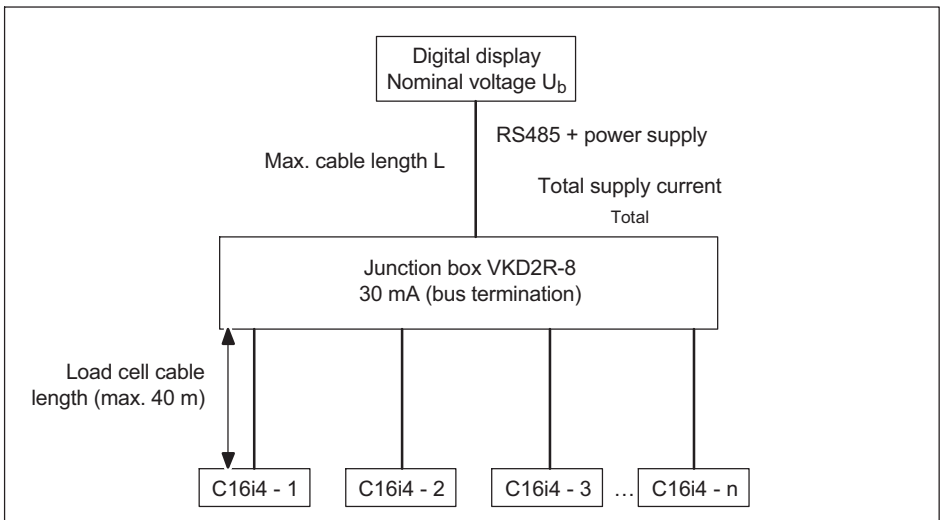

Fig. 5.2 Connection diagram when C16i4 load cells are supplied via the digital display
5. Both of the tables below (for C16i3 or the new C16i4 load cells) specify the maximum possible cable length between the junction box and weighing display when the power is supplied via a weighing display (*also see Fig. 5.2*).